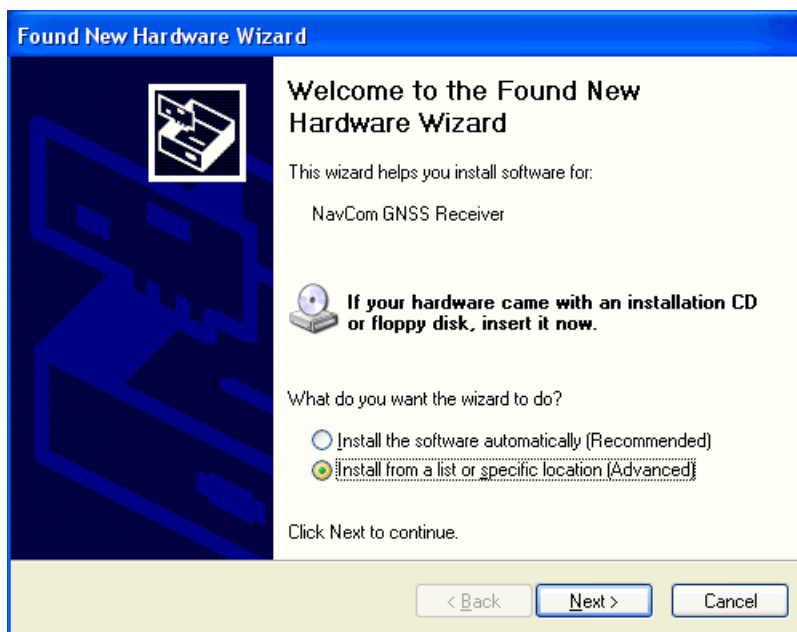

Figure 6: Found New Hardware Wizard/Install Software
4. On the *Welcome to the Found New Hardware Wizard* dialog box, select the option *Install from a list or specific location (Advanced)*; then click the *Next* button (refer to Figure 6).